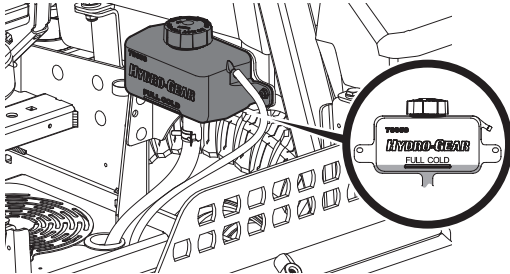

Figure 49
- Turn the reservoir cap counter-clockwise to remove, then check the oil level in the reservoir. Oil should be visible at the bottom of the cup, but the oil level must NOT be above the "FULL COLD" line (Figure 49). DO NOT FILL THE RESERVOIR.